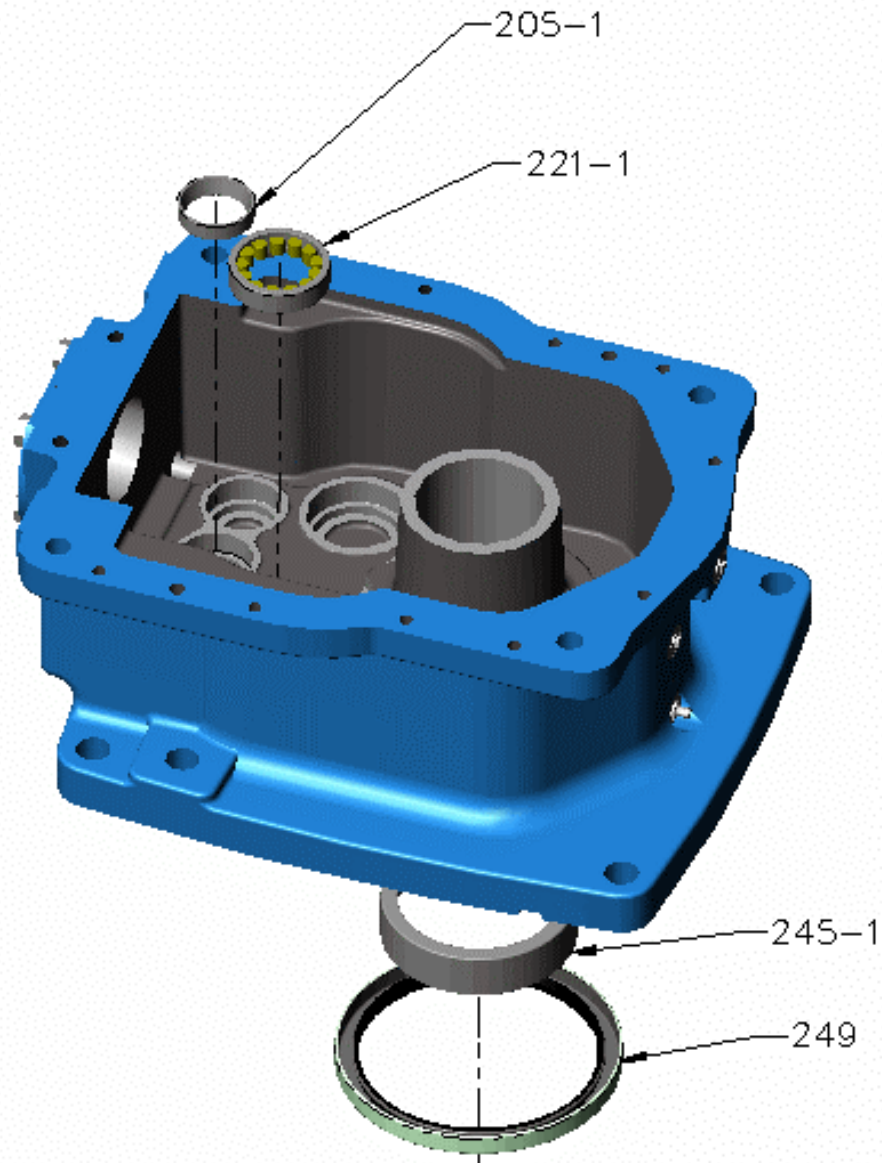

Figure 12 – Case Bottom
- B. At case bottom, install following items (refer Figure 12):